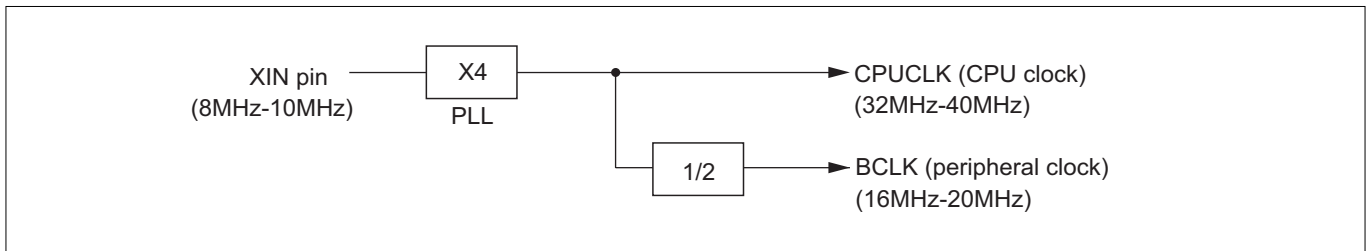

Figure 1.1.1 Conceptual Diagram of the Clock Frequency Multiplier
- The 32176 contains a clock frequency multiplier, which is schematically shown in Figure 1.1.1 below.